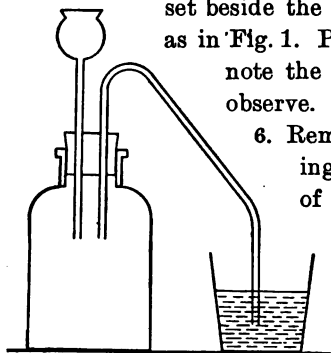

FIG. 1
5. Into the 2-hole stopper of a 4-ounce bottle fit a funnel tube; also a tube bent so as to open into water in a tumbler set beside the bottle. Arrange the apparatus as in Fig. 1. Pour water into the funnel and note the result. Account for what you observe.